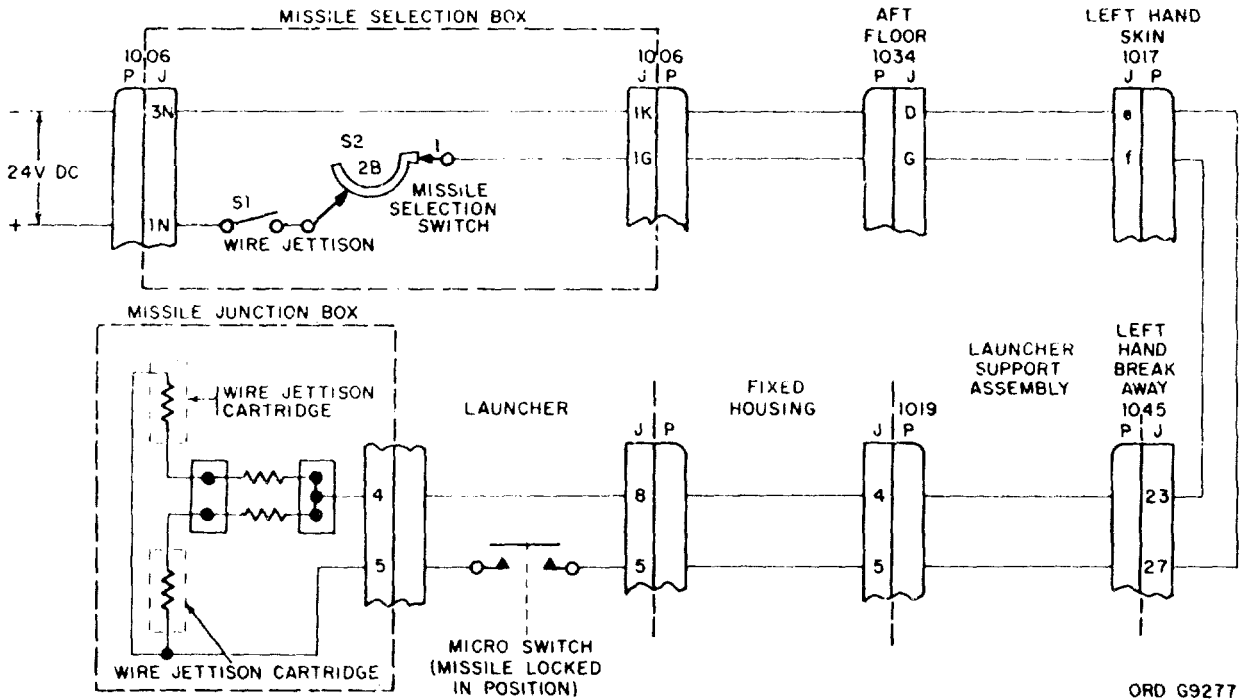

Figure 15. Guide-wire jettison (functional schematic).
19. Guide Wire Jettison (fig. 15)